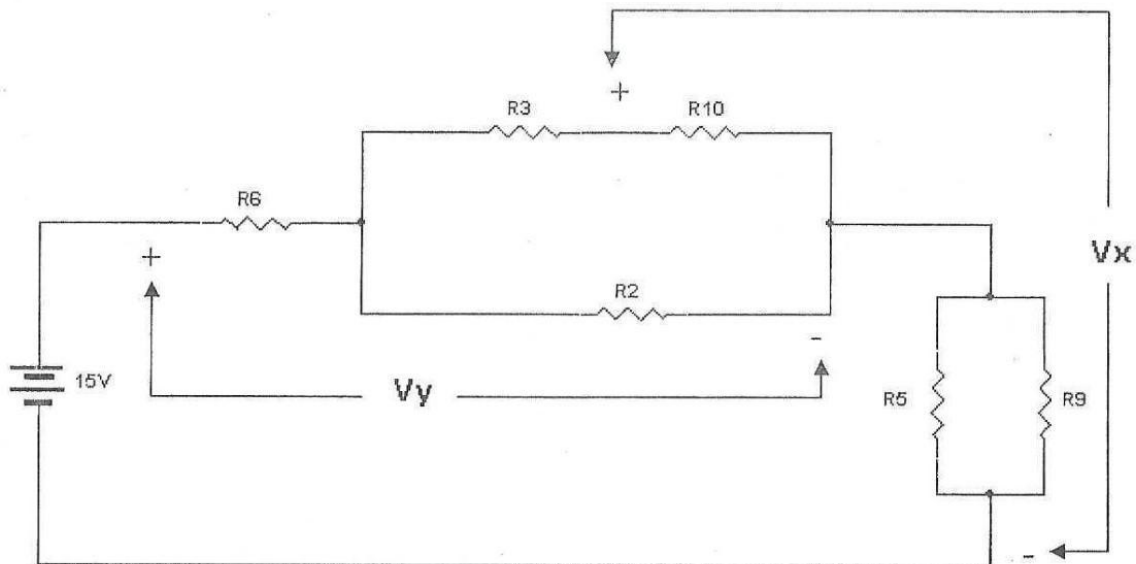

FIG. 2
- A. Wire the circuit of FIG. 2.